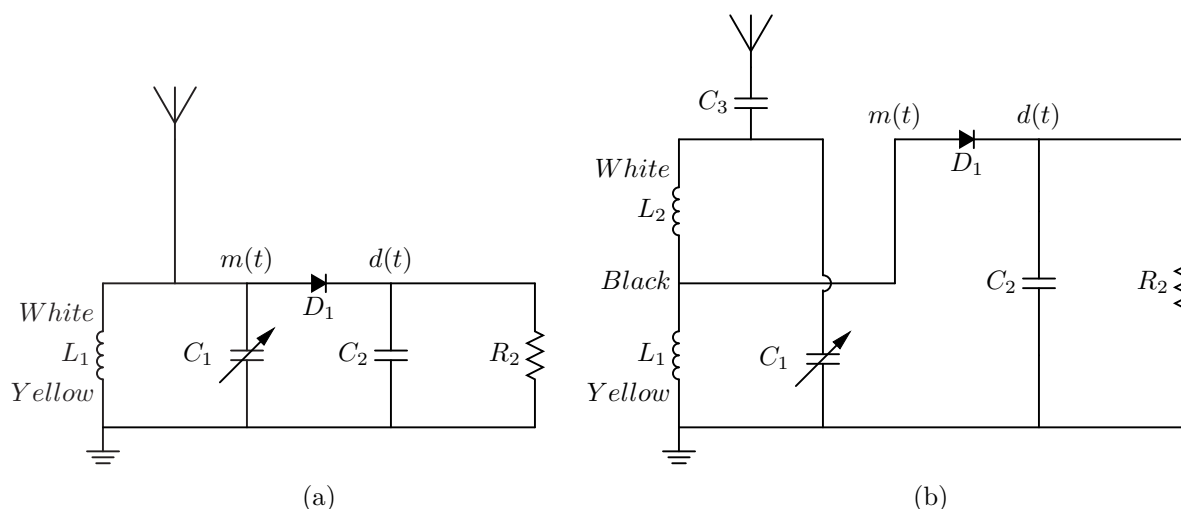

Figure 3: (a) Simple demodulator schematic (b) A better demodulator schematic
A simple demodulator is shown in Figure 3. The antenna (often just a long wire) picks up any radio waves that happen to be passing through the air. The LC oscillator composed of L_1 and C_1 pick out the radio frequency (RF) signals around its resonant frequency, given by $\omega = \sqrt{\frac{1}{L_1 C_1}}$. The diode demodulates the RF signal, and the low-pass filter composed of R_2 and C_2 filters out the remnants of the high-frequency signals produced during modulation and demodulation. *Note: Think of the antenna and diode as a current source and the low-pass filter as a transresistance amplifier (current input and voltage output) if it isn't clear why this is a low-pass filter.*
There are two demodulator schematics shown in Figure 3. The only difference between the two is that the one shown in Figure 3(b) provides better signal reception. You are free to build either one. (*Note: This semester, the inductor we're using only has two taps, so you'll need to build the demodulator in Figure 3(a)*). For the two demodulators, use a 1 nF capacitor for C_2 and a 100 k Ω resistor for R_2 . If you are building the one shown in Figure 3(b), use a 100 pF capacitor for C_3 . As for the inductor, the inductor given to you in the kit has several inductor coils inside the same unit. You will only have to use the terminals as shown in Figure 3.